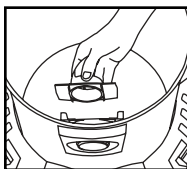

FIGURE 25
33. Remove the inlet deflector from the deflector guide. **NOTE:** Hose must be removed before the inlet deflector can be taken out. **FIGURE 25.**